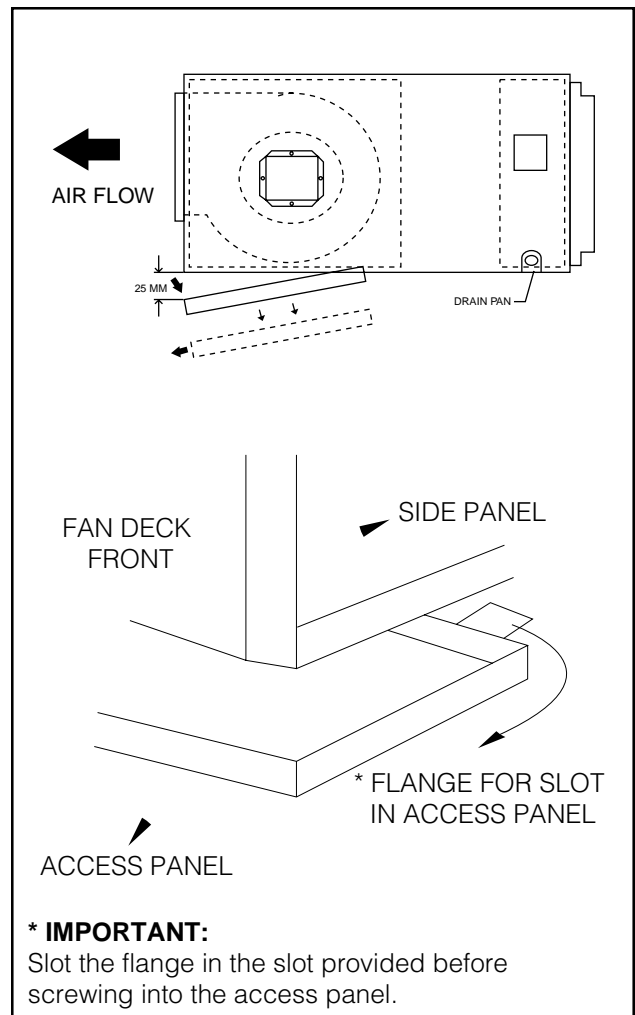

FIG.6 MOUNTING ACCESS PANEL
All internal parts of the unit should be accessible by removing access panel at the base of the unit. Do not remove the base pan which is connected with the drain pipe unless necessary. To remove the access panel, follow the procedures below (Refer to Fig.6).
2. Pull down the access panel as shown in Fig.6 (approximate 25mm)